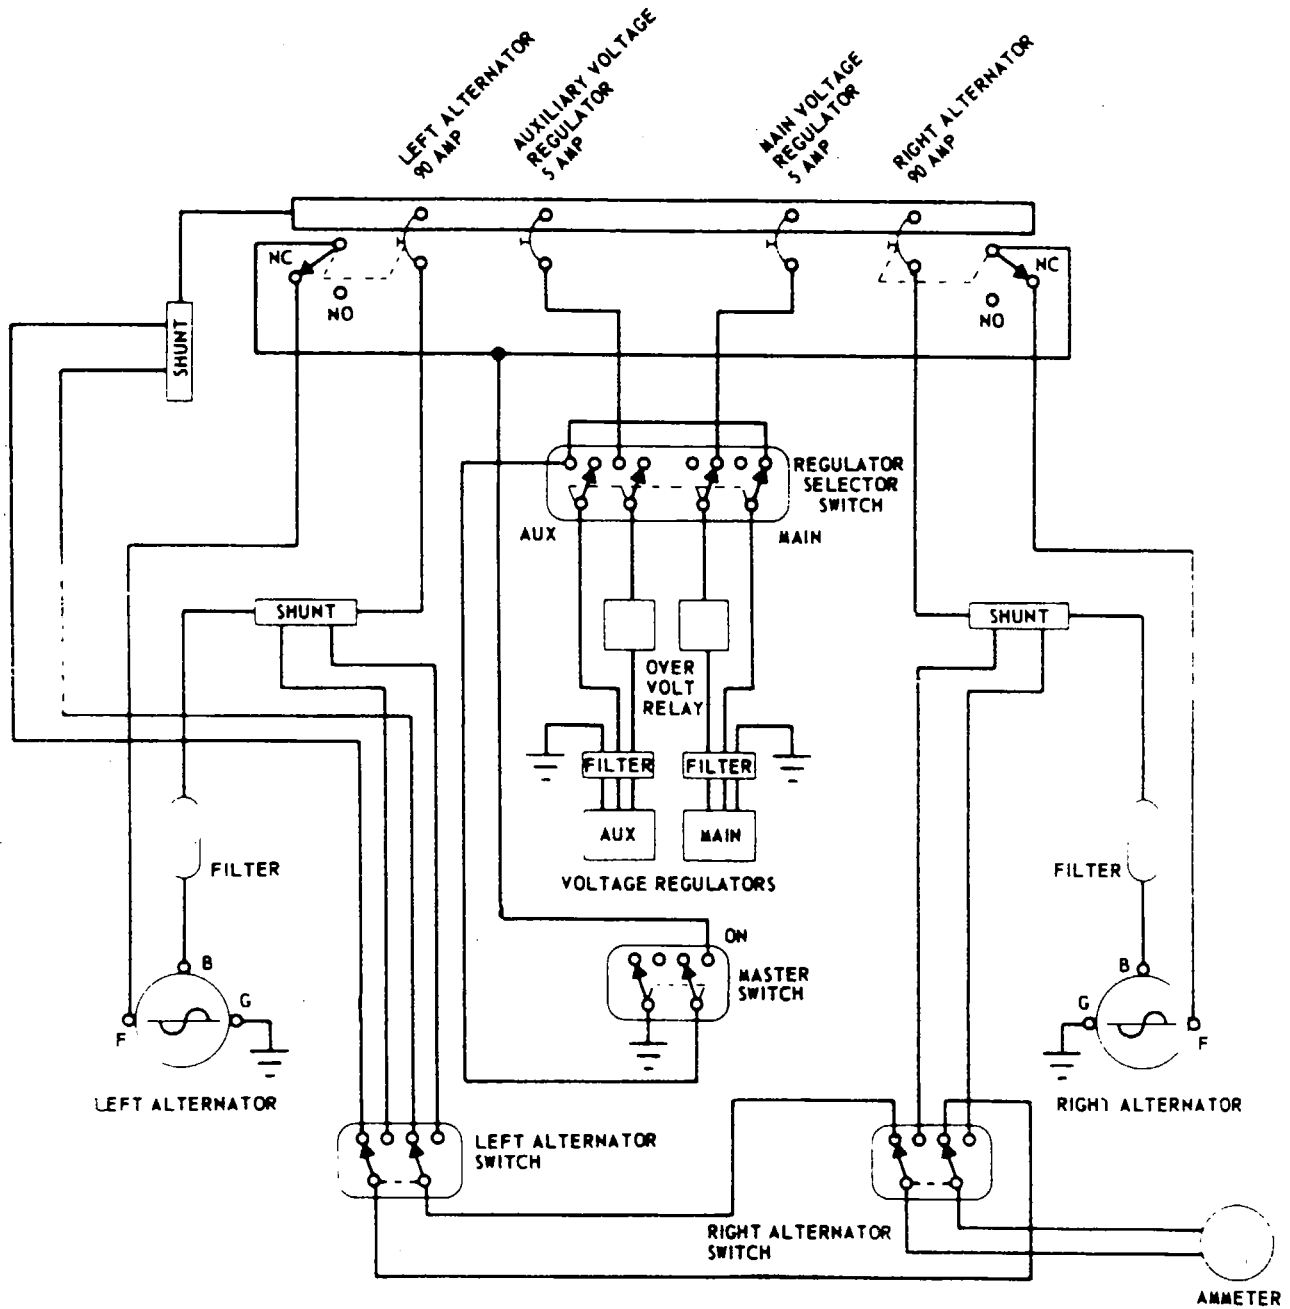

Figure 11-3. Dual Alternator Wiring System (Delco Remy)
11-7. CHECKING ALTERNATOR SYSTEM. The ammeter is equipped with two selector switches which enable an independent output check of each alternator, as well as the electrical output-input of the battery. Should either alternator show no output on the ammeter, check the appropriate circuit breakers. If a further check of the ammeter shows no output from both alternators, switch to the auxiliary voltage regulator and overvoltage relay. If switching to the auxiliary system indicates no electrical output, further check the alternator system. (Refer to Figure 11-3.)
- b. Disconnect the battery (BAT) and field (F) leads at the alternator.
- f. Should there be no indication of voltage, trace back through the output circuit until voltage is indicated. (Refer to Figure 11-3.) A component that allows no voltage to pass through it should be replaced.